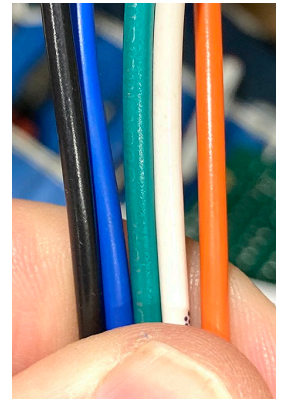

Figure 22
27. Feed the remaining wires (Black, Blue, Green, White and Orange) from the new intermediate harness through a bushing, into the rear of the control box (see Figures 22 & 23).